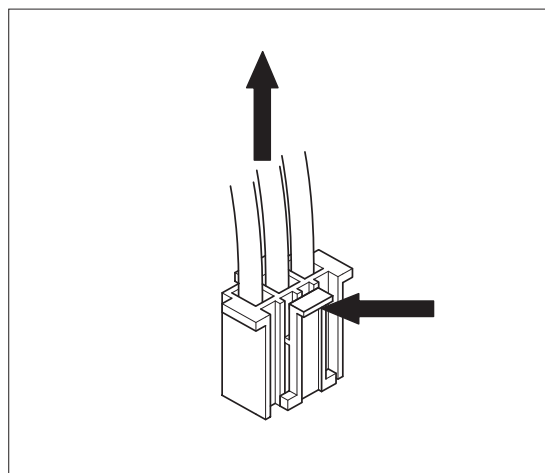

figure 8 Disconnecting the PCB locking plug.
5. Remove the connector CN701 and CN702 from the inverter PCB.figure 8